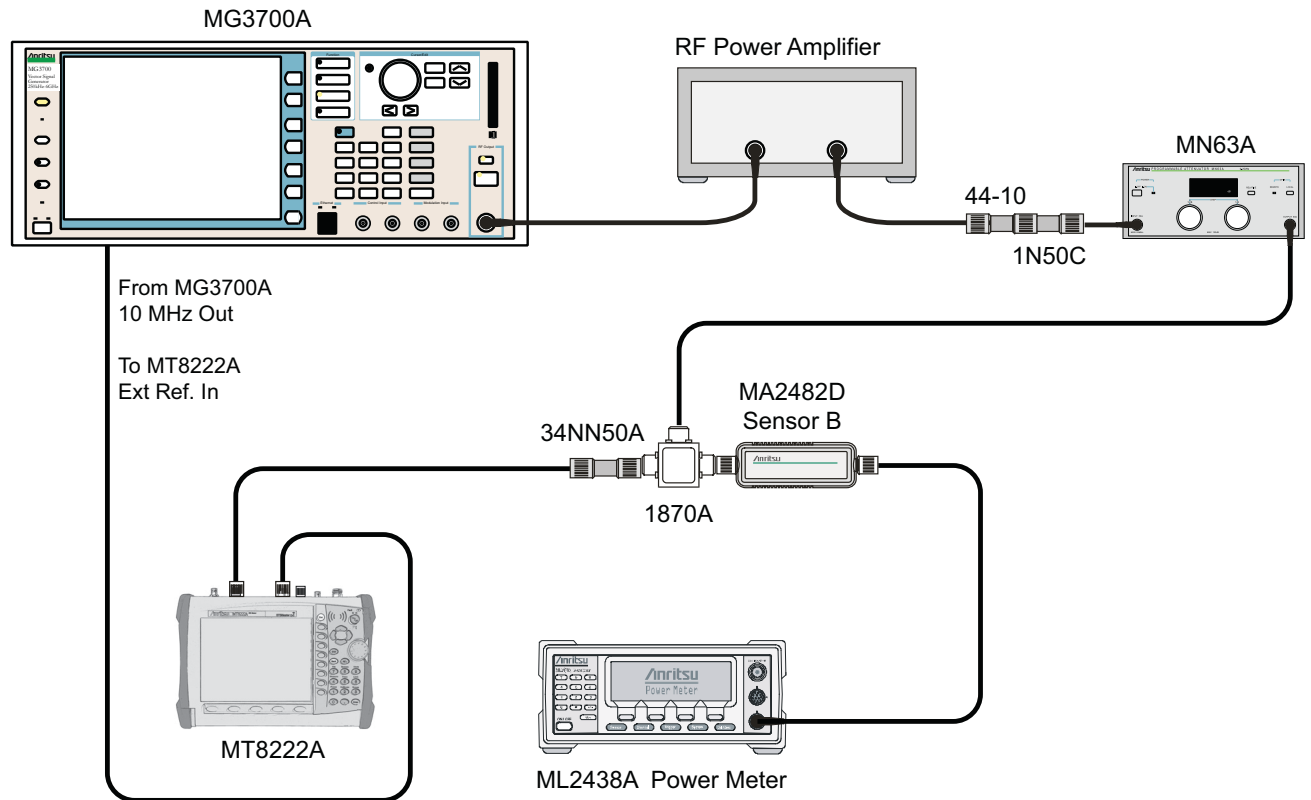

Figure 5-17. DVB-T/H SFN Option 78, Level Accuracy Verification Setup - Sensor B Only
26. Remove Sensor A from the Power Splitter and then connect the Power Splitter to the MT8222A Spectrum Analyzer RF In with an N(m) to N(m) adapter as shown in Figure 5-17.
59. Remove Sensor A from the Power Splitter and then connect the Power Splitter to the MT8222A Spectrum Analyzer RF In with an N male to N male adapter as shown in Figure 5-17, “DVB-T/H SFN Option 78, Level Accuracy Verification Setup - Sensor B Only”.